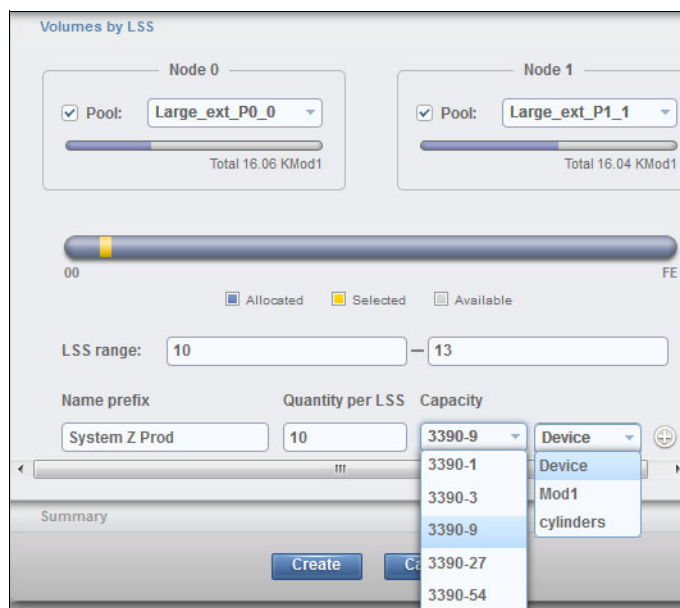

Figure 11-82 Create CKD Volumes: Advanced: Volumes by LSS
6. Now click the **Volumes by LSS** tab to display the Volumes by LSS window, as shown in Figure 11-82.